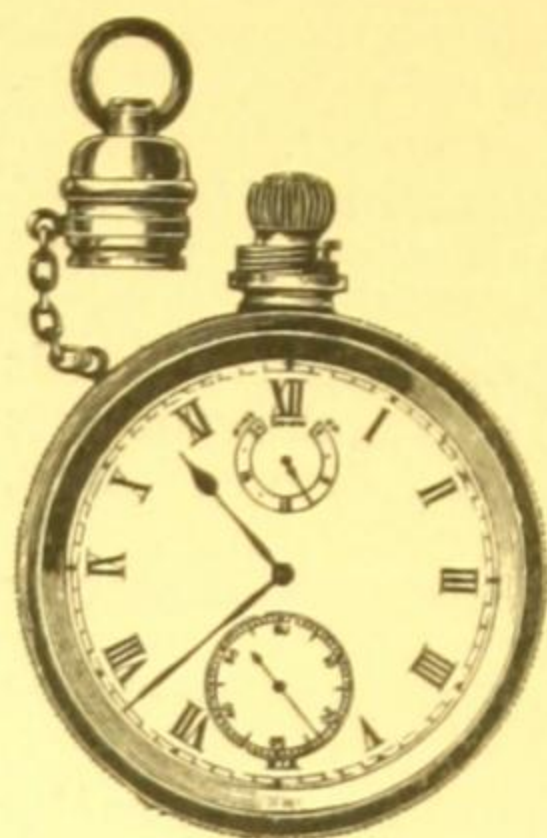

Fig. 122.
- SM 453.—**Waterproof Surveyor's Watch.** Half-chronometer movement—fully jewelled—compensated for temperature. Up and down indicator. Silver case, screwed together with waterproof joints, and waterproof cap to winding button. The watch can be immersed in water without sustaining injury ..... Fig. 122 **£55 0 0**